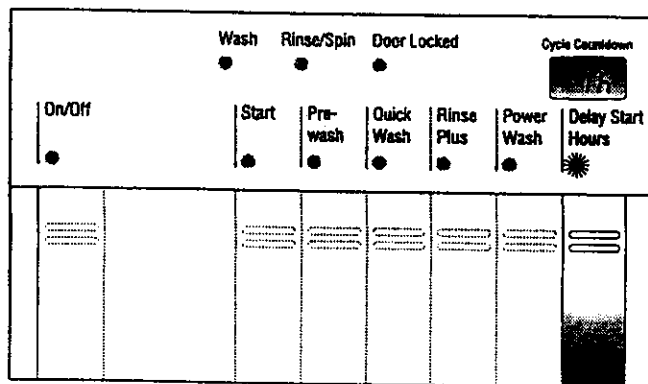

Figure 15.
- XIII. Press "DELAY START HOURS" button, see figure 15. The alphanumeric display above the button will display "1h" indicating that a one hour delay has been selected. Press the "DELAY START HOURS" button as many times as necessary, or hold it in, to display the number of hours delay desired. A small dot will flash on and off, in lower right hand corner of display, to indicate the washer is counting down from the set time. The washer will count down in one-hour increments and will start once the indicated delay has past.